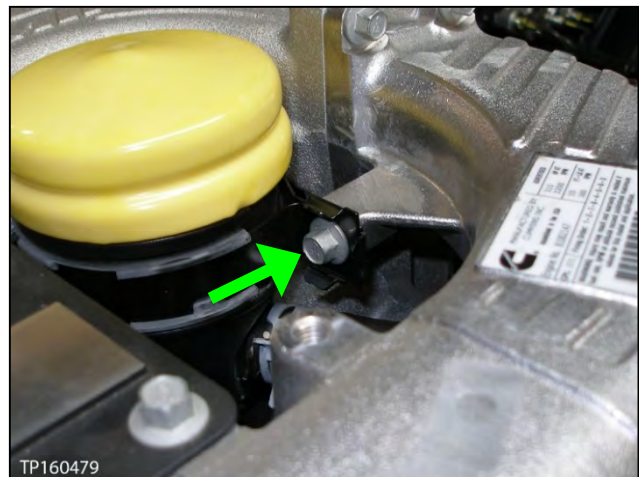

Figure 37
25. Remove the air inlet connection assembly bolt (see Figure 37).